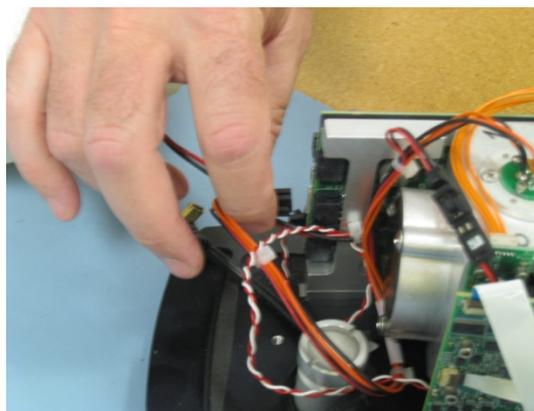

Figure 27. Disconnecting the laser/source power harness
- 5 Disconnect the laser/source harness from the power board. The laser/source harness is identifiable by its 6-pin connector and orange, black and red wire combination (see Figure 27).